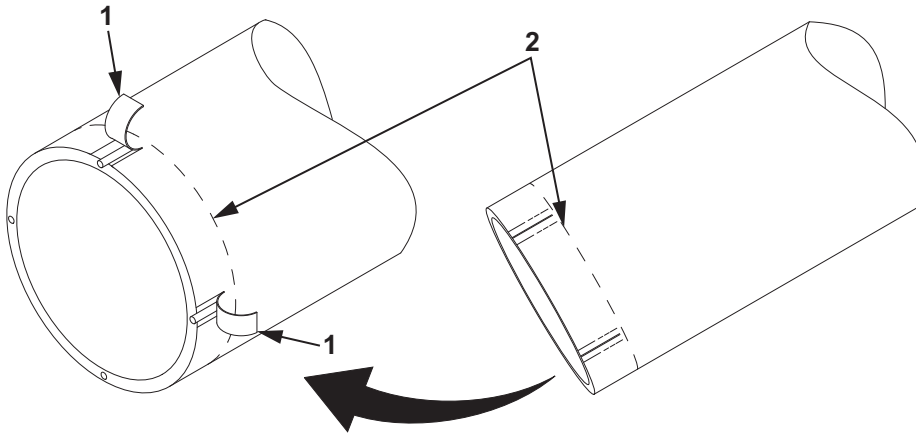

Figure 4. Hose Assembly Repair.
10. Using needle nose pliers, pull the outer layer of the hose assembly fabric (Figure 4, Item 1) back by grabbing the outer layer of the hose assembly fabric (Figure 4, Item 1) and rolling the pliers toward the radial line (Figure 4, Item 2) previously marked on the hose assembly.
11. Using a knife, cut the rolled back hose assembly fabric (Figure 4, Item 1) along the radial line (Figure 4, Item 2). Discard excess hose assembly fabric (Figure 4, Item 1).